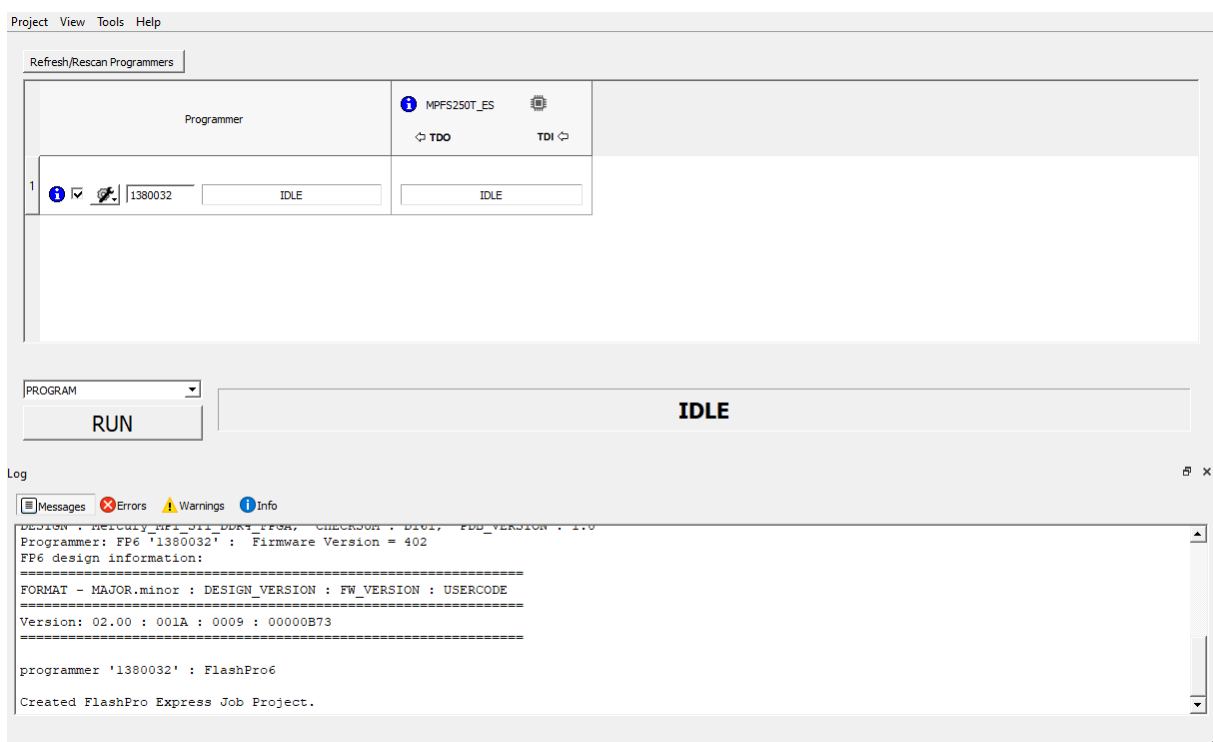

Figure 5: Generated FlashPro Express project
- (h) The generated project should look similar to Figure 5.